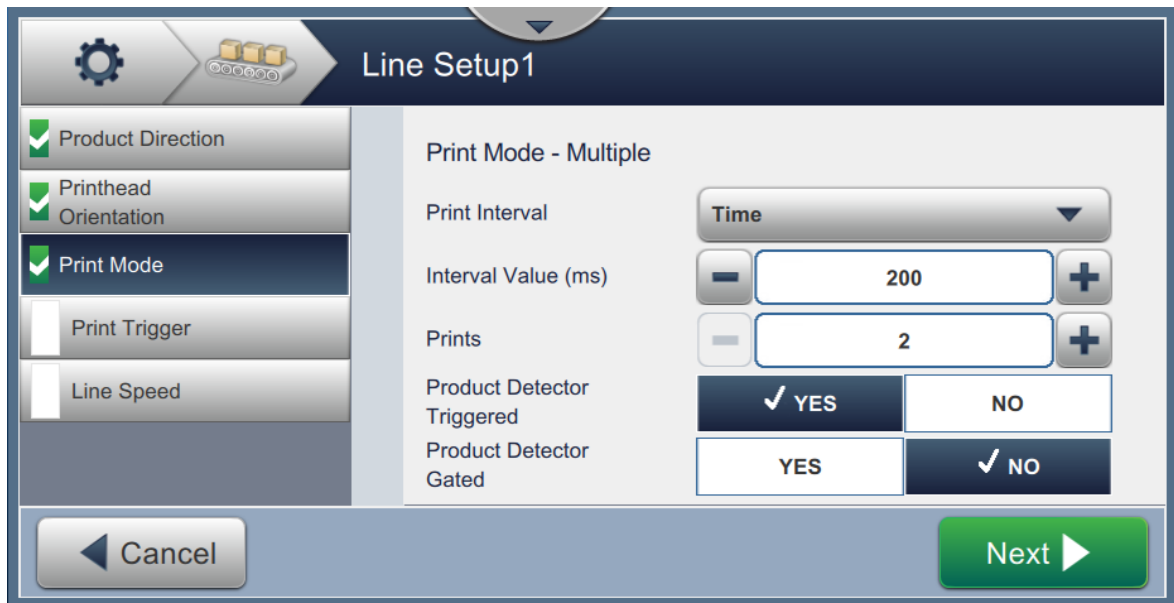

Figure 6-30: Print Mode - Multiple
2. Change the parameters in Settings screen, touch the  button to set the mode as shown in Figure 6-30.